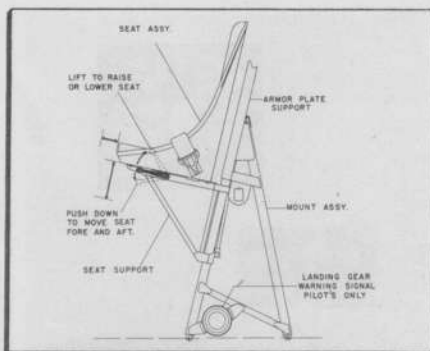

Figure 6 - Pilot's and Copilot's Seat Adjustment Diagram
v. **Seat Adjustment.** (See figure 6.)